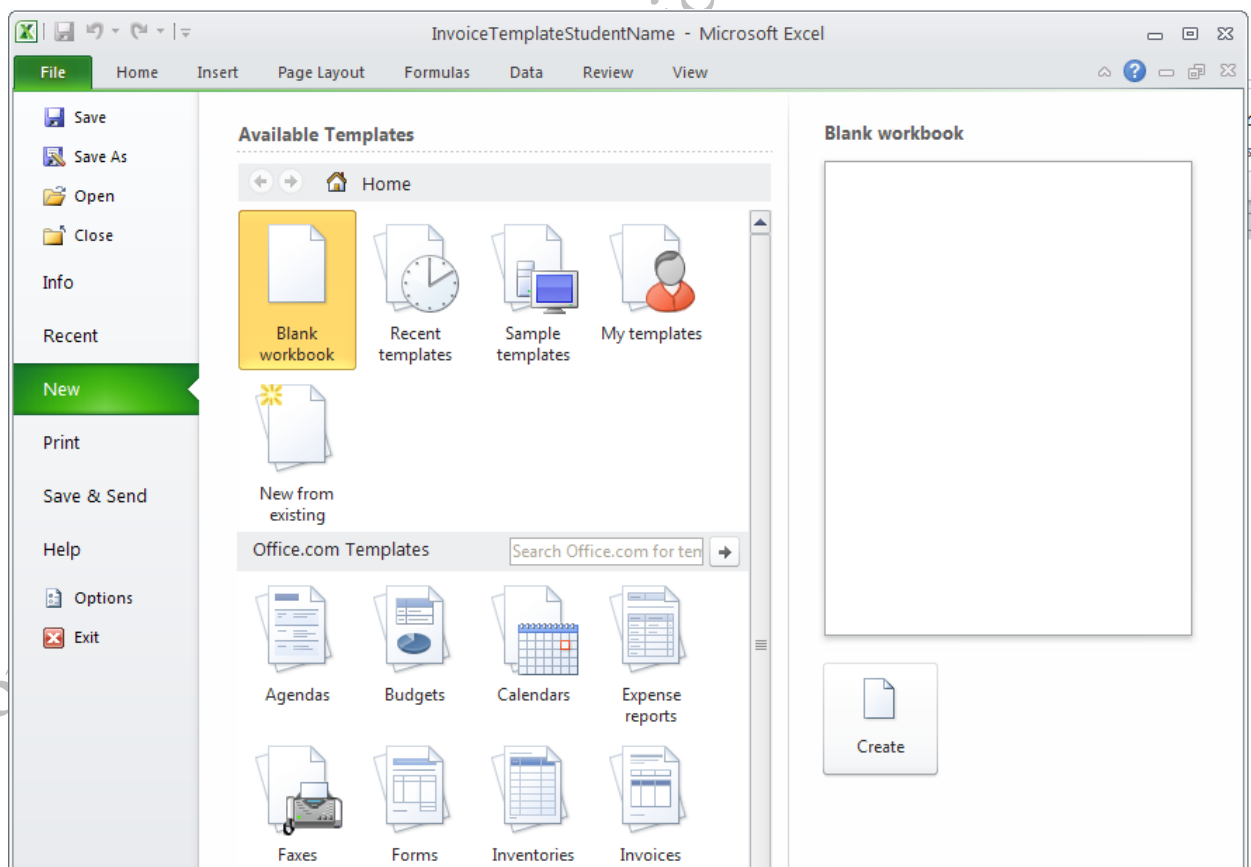

Figure 8.33. Installed and online Excel templates found under File, New.
Excel has several installed templates that are available with the software and there are many others that are available online. The templates that come with the Excel software display when you click the File button and then click New, as shown in Figure 8.33.
4. In the Move or Copy dialog box, click the To book list arrow and then click (new book). Click the Create a copy check box and compare your screen with Figure 8.33.